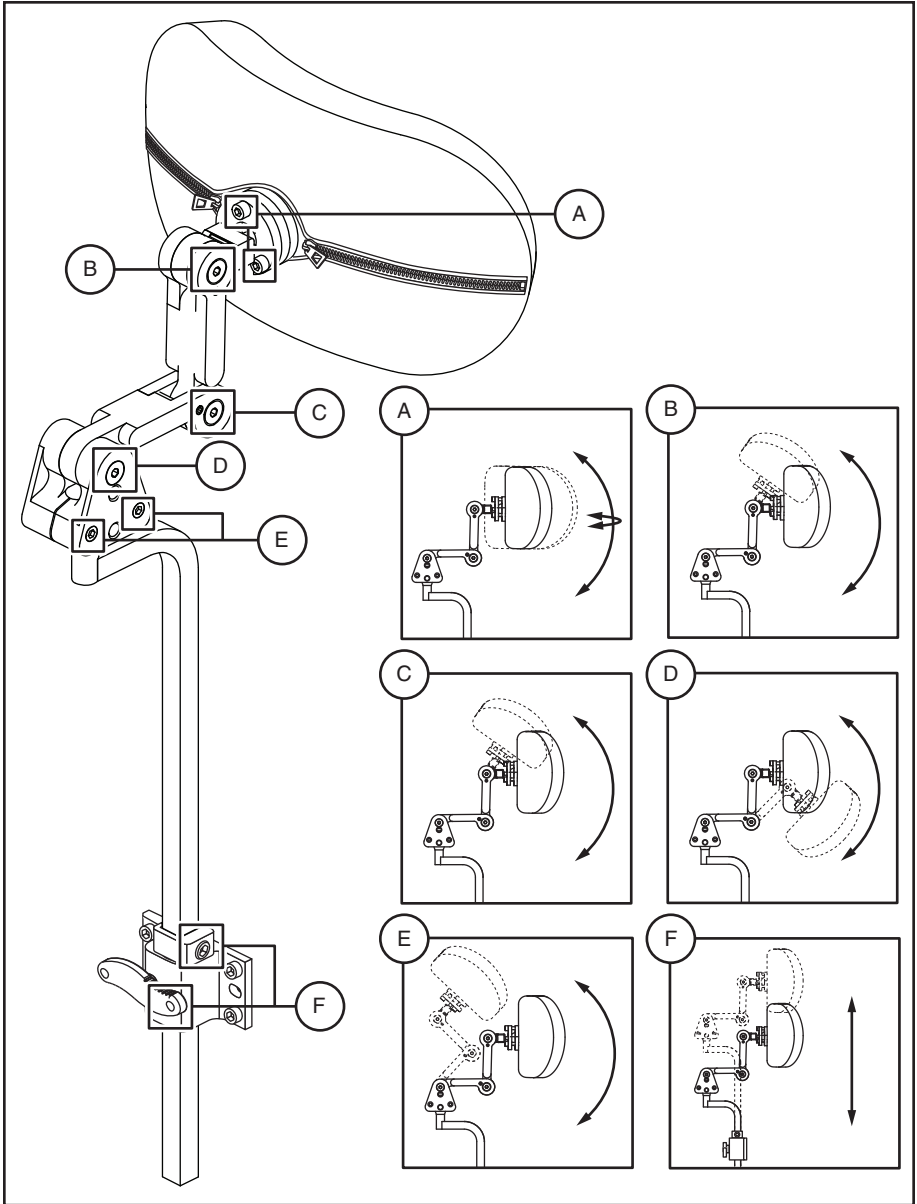

Figure 25. Headrest Adjustment Components
1. Loosen the adjustment screws that correspond to the desired adjustments. **See figure 25.**